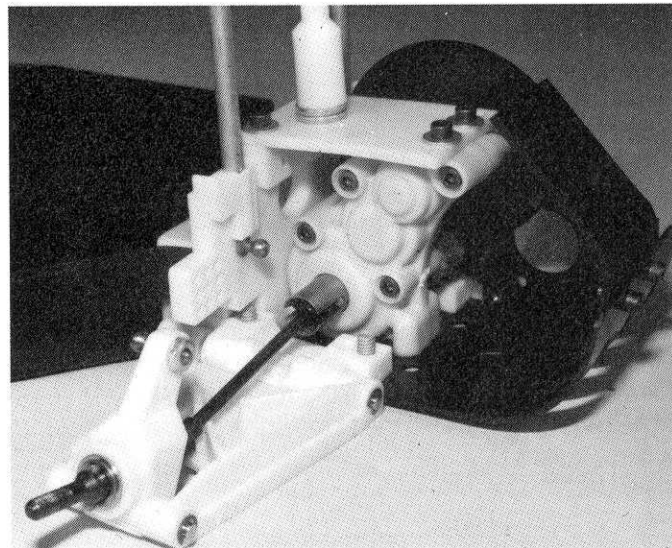

Fig. 87
□ **Fig. 87** Your L.H. rear end should look like this now.